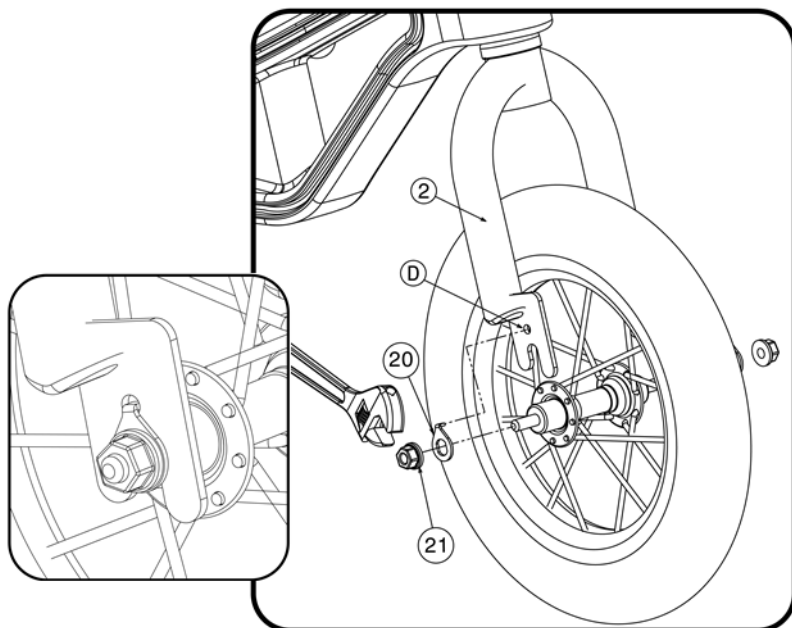

Fig 02
1. If the Axle Nuts (21) are already attached to the front wheel axle, begin by removing them with an open end wrench or adjustable wrench.
2. Place the wheel into the front fork (2) (**fig 02**)
3. Install wheel retainers (20) making sure the tabs are in the fork (D) tab holes.